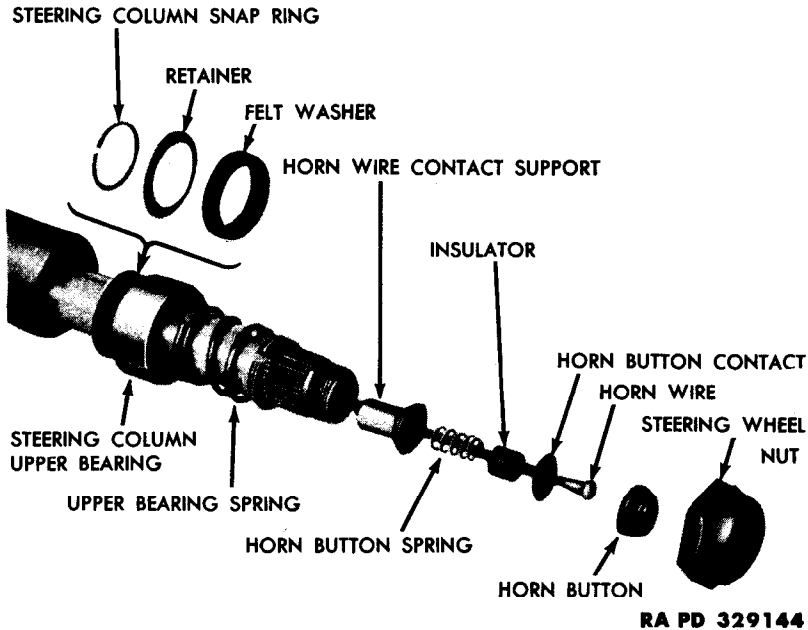

Figure 97 — Horn Button Assembly — Exploded View
(5) **INSTALL STEERING WHEEL** (fig. 97). Slide the steering column bearing spring and spring seat on the shaft. With the front wheels in a straight ahead position, place the steering wheel on the shaft with the center spoke in a vertical position and facing downward. Install the horn button and horn nut.